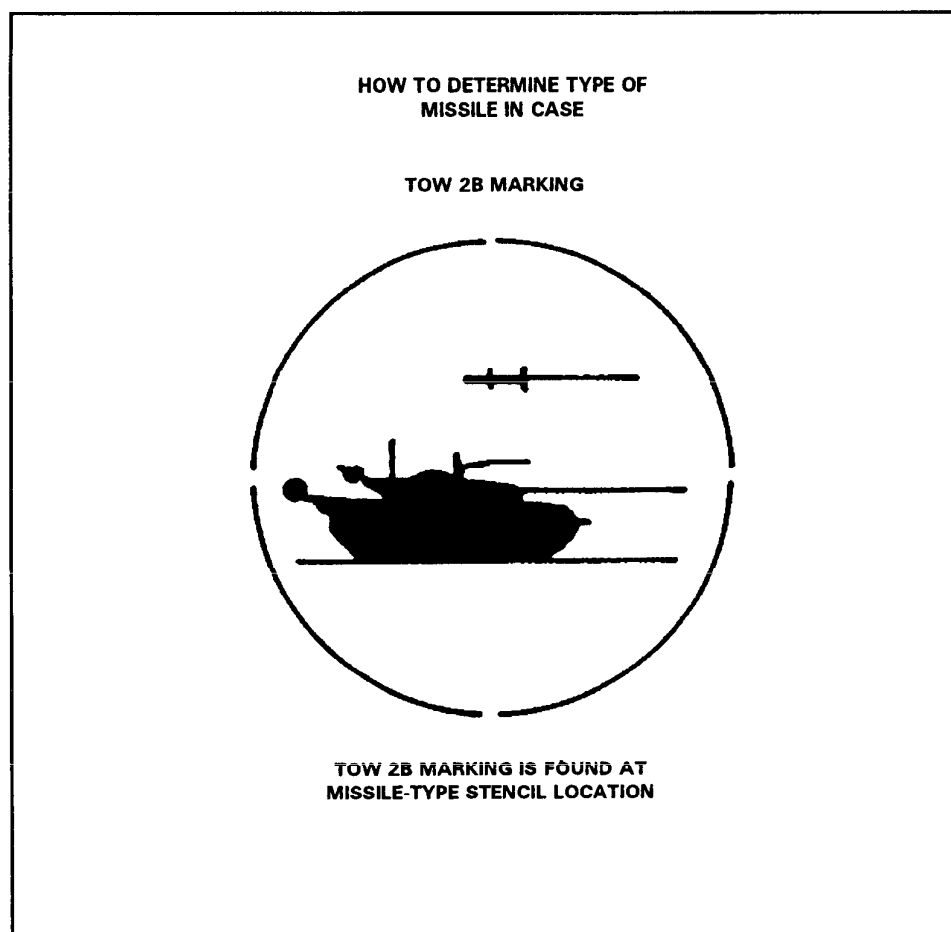

Figure 1-4. TOW 2B marking.
b. The TOW 2B missile is unique because it is a fly over/shoot down missile. It is marked with a decal as shown in Figure 1-4.